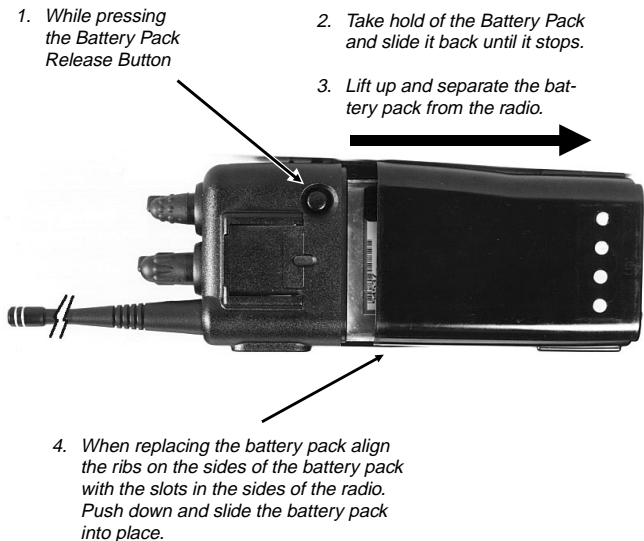

Figure 7 - Installing And Removing The Battery Pack
- 2. Align the battery pack tabs with the battery mounting plate slots on the back of the radio (see Figure 7).*